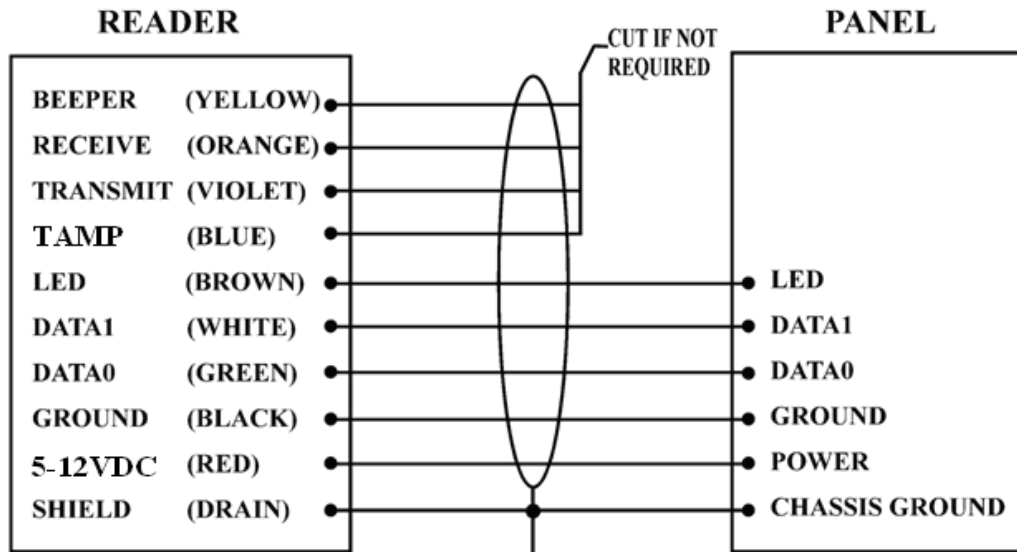
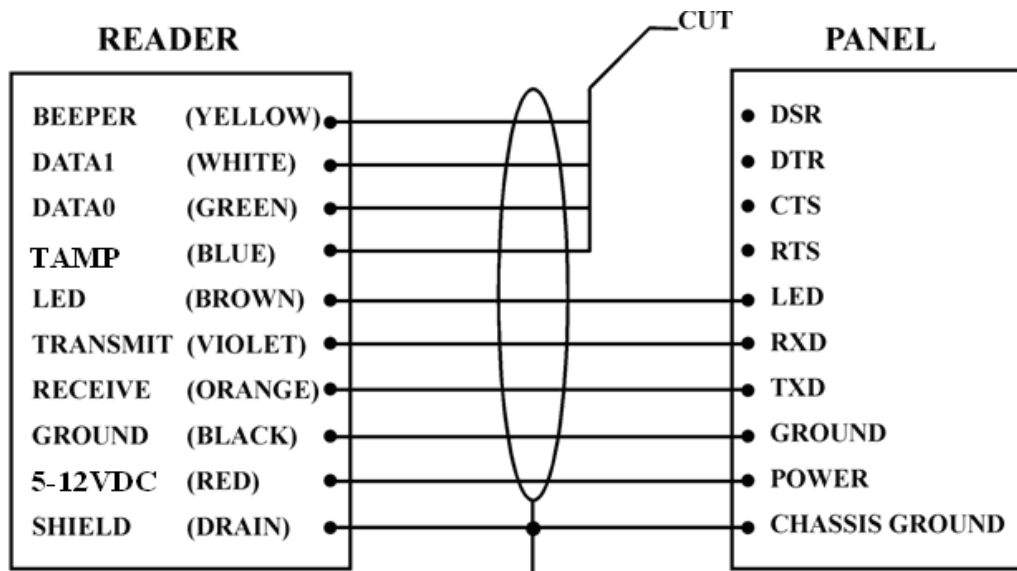
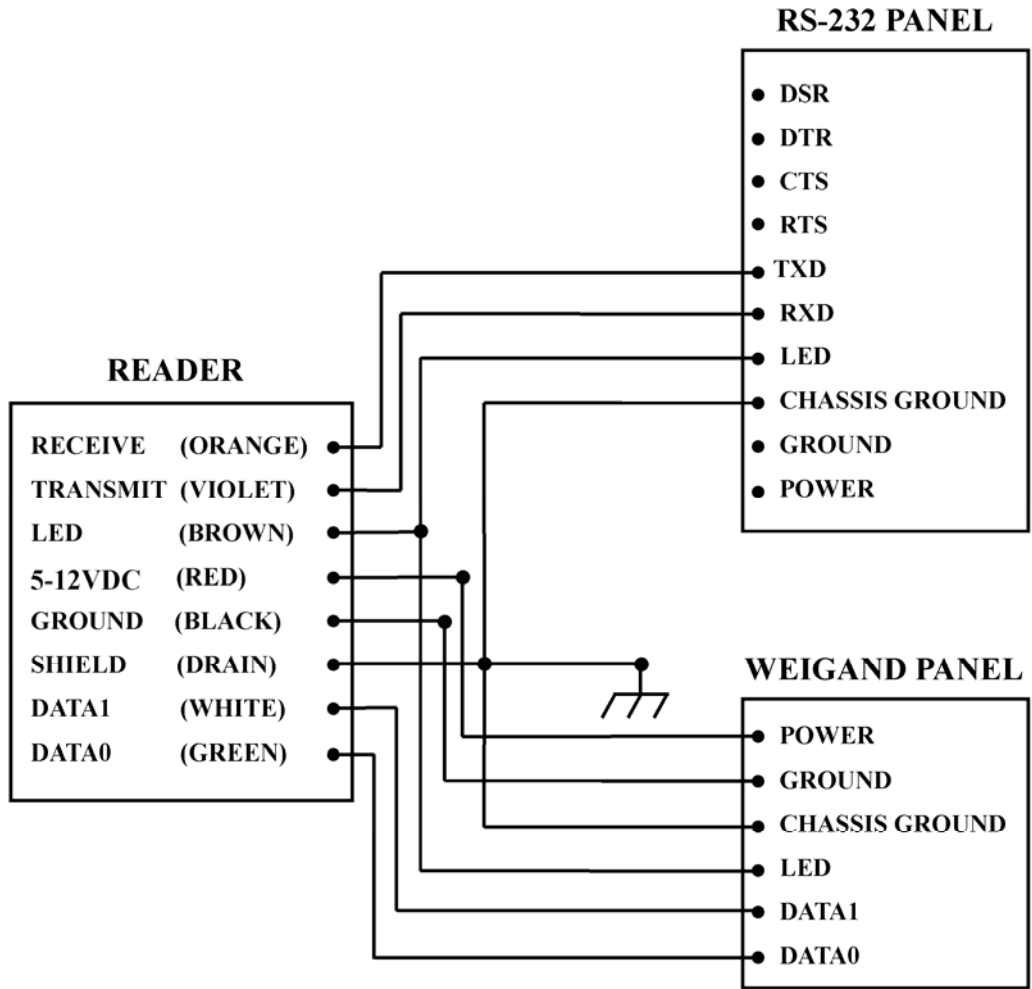

Figure 1 Wiring Diagram for Wiegand Output Format
Figure 2 Wiring Diagram for RS232 Output Format
Figure 3 Wiring Diagram for Wiegand & RS232 Output Format
All the Reader wiring must be continuously shielded. AWID recommends using #22 AWG up to #18 AWG, six or seven-conductor shielded cables. Longer distances and higher current consumption on the power supply line will require larger gauge wires. Refer to Table 1 and Figure 1, Figure 2 and Figure 3 on the following pages to determine your data lines' wiring requirement. Due to system data termination differences, contact your panel manufacturer for their specific requirements.
The Reader is designed for Wiegand and RS-232 standard communication formats; use Figure 1 for Wiegand format installation and Figure 2 for RS-232 format installation, and use Figure 3 for combined Wiegand and RS-232 installation. If an external power supply is being used, leave the Panel's Ground and Power terminals open and connect the Reader's Ground (Black) and 5-12VDC (Red) terminals to the external power supply.
5. Connect the Reader and the Panel together according to Figure 1 for Wiegand format, Figure 2 for RS-232 format and Figure 3 for Wiegand/RS-232 format.